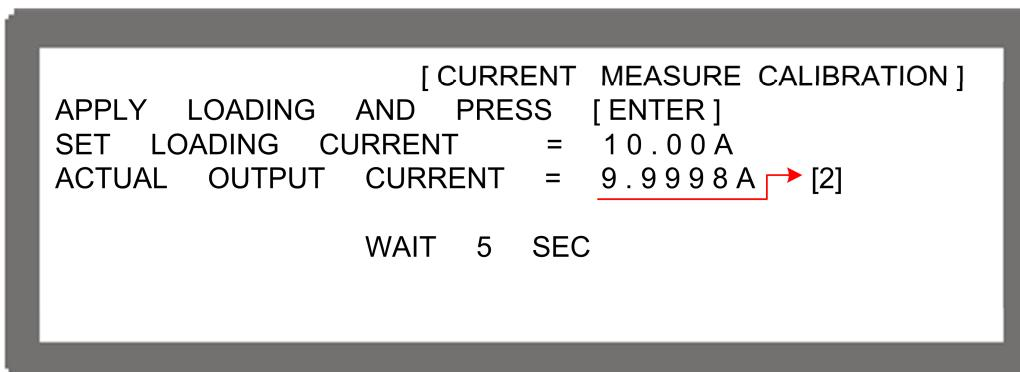

Figure 3-106
7. Next, press “” to do the 10A calibration. The cursor will stop at position [2] as shown in Figure 3-106 for setting the loading current of the Electronic LOAD to 10.00A. Enter the current (enter 4 digits after the decimal point) read by the Current Shunt (DVM) and press “” to confirm and wait for the test to end. Using 2A and 10A for calibration, the system will calculate the calibration factor for the low current range.